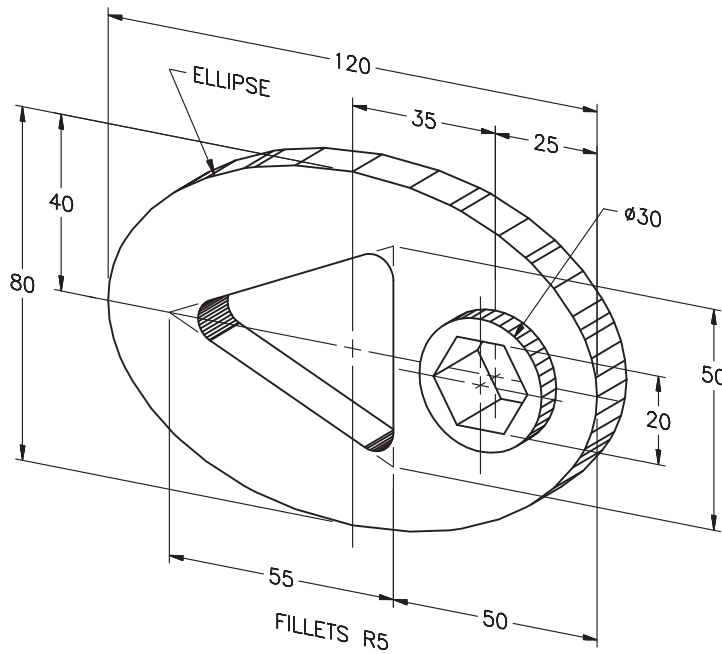

Fig. 28-8
7. Draw and dimension the front view of the steel plate shown in Fig. 28-8. Use the following drawing, dimension, and leader settings to set up the metric drawing, and place everything on the proper layers. Also draw and dimension the top and right-side views, assuming the plate and boss thicknesses to be 10 and 5, respectively.